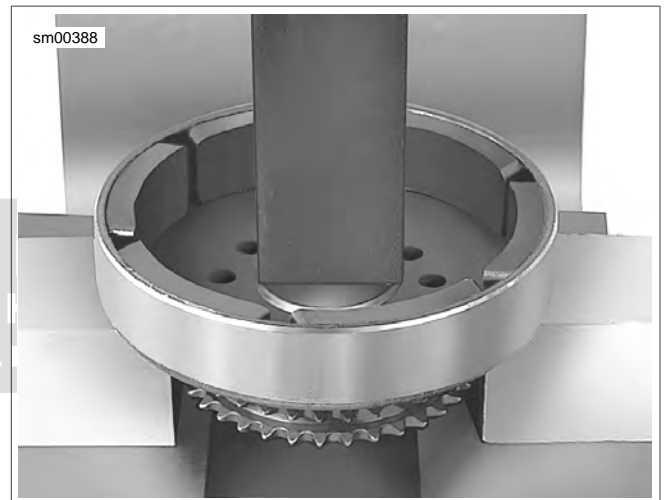

Figure 6-29. Removing Rotor From Sprocket
2. See Figure 6-29. Position blocking under rotor. Press sprocket free of rotor.